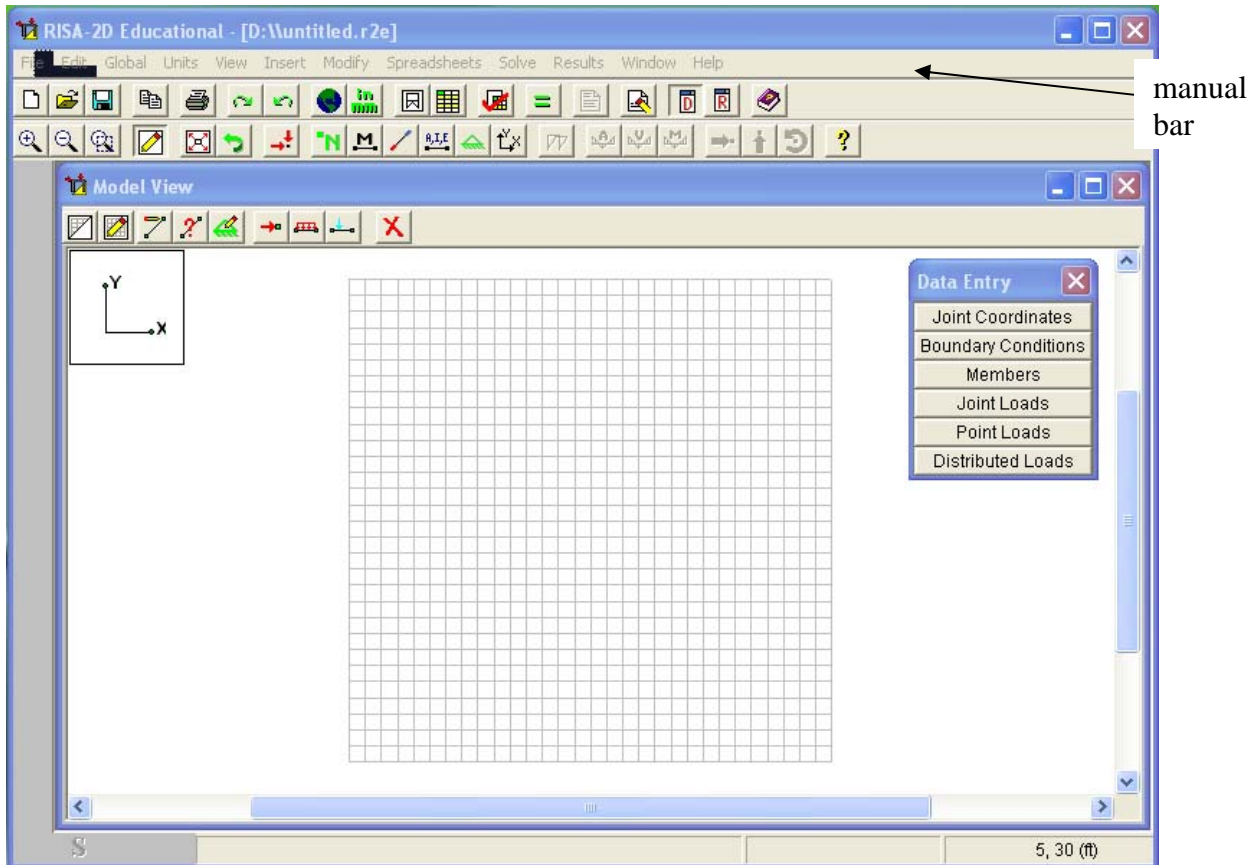
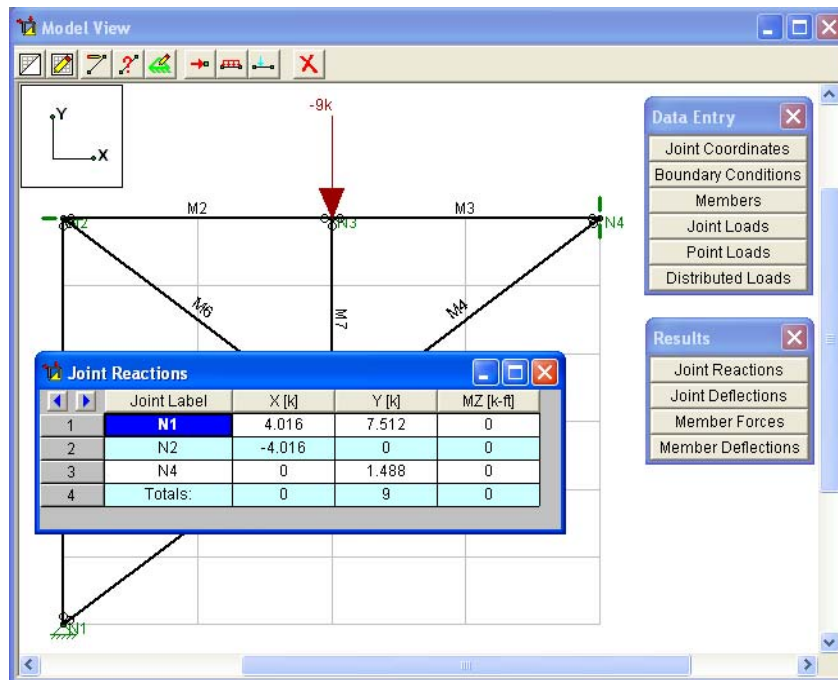

Figure 1
Figure 12
This tutorial describes the use of RISA-2D Educational software for the analysis of planar structures. When the computer program is opened, three items will appear on the computer screen (see Figure 1):
- (7) To analyze the truss, click on **Solve** (or the  icon) at the top of the screen in Figure 1. Results, including member forces, support reactions, and displacement of joints, are tabulated in tables and viewed by clicking on the labels of the **Results** toolbar (Figure 12). As was mentioned earlier, if the data supplied is incomplete or the structure is unstable, the program will issue a warning.